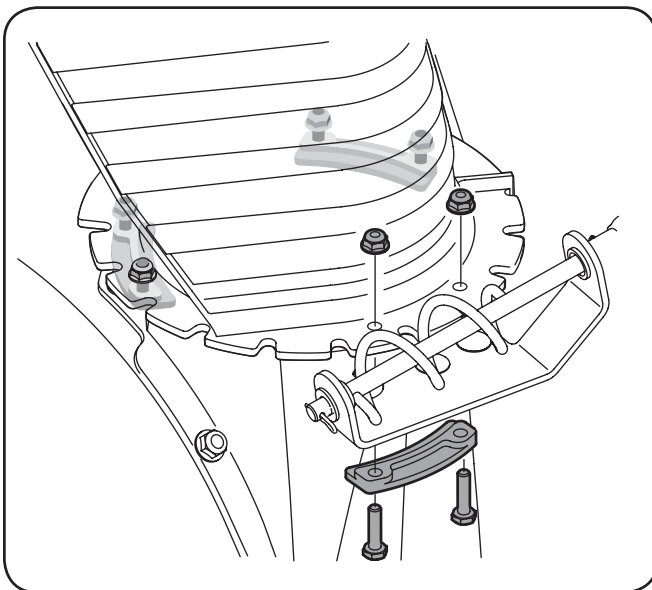

Fig. 3-4
- Remove locknuts and screws securing one of the flange keepers to the chute assembly. See Figure 3-4.